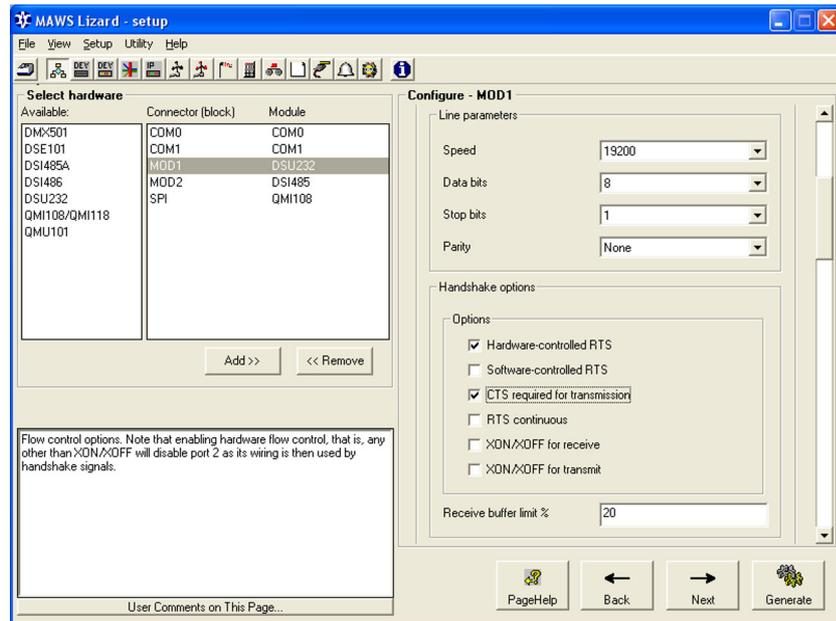

Figure 81 Optional Hardware View: Selecting Configuration Options for Iridium Transmission
1. Configure the serial transmission hardware in the **Optional hardware** view as shown in Figure 81 on page 190.